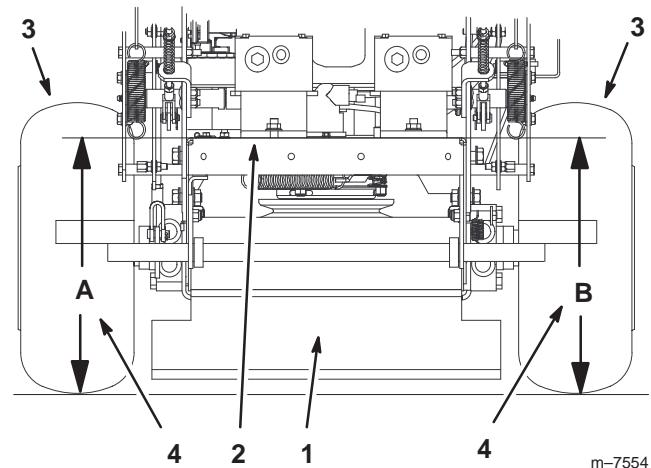

Figure 67
4. Measure engine deck height at location **A** (Fig. 67).
5. Measure engine deck height at location **B** (Fig. 67).